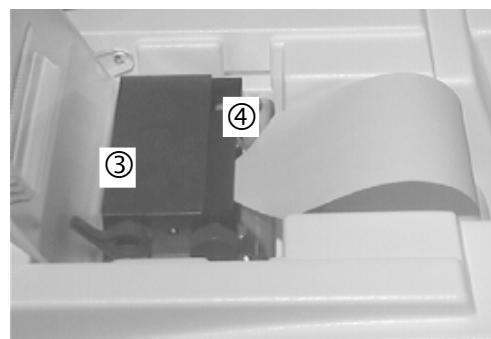

Fig. 35
4. Lift the lever on the printer ③ (Fig. 35).
5. Cut off the end of the paper at an angle and insert it into the paper slot on the printer ④ (Fig. 35).
6. Pull the paper through the printer and lower the lever ③ (Fig. 35).